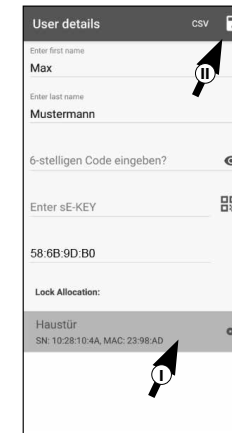

Fig. 52
- 5 Next, assign a cylinder by tapping it in the list of cylinders already registered and save your settings by tapping on the disk symbol at the top right (Fig. 52).